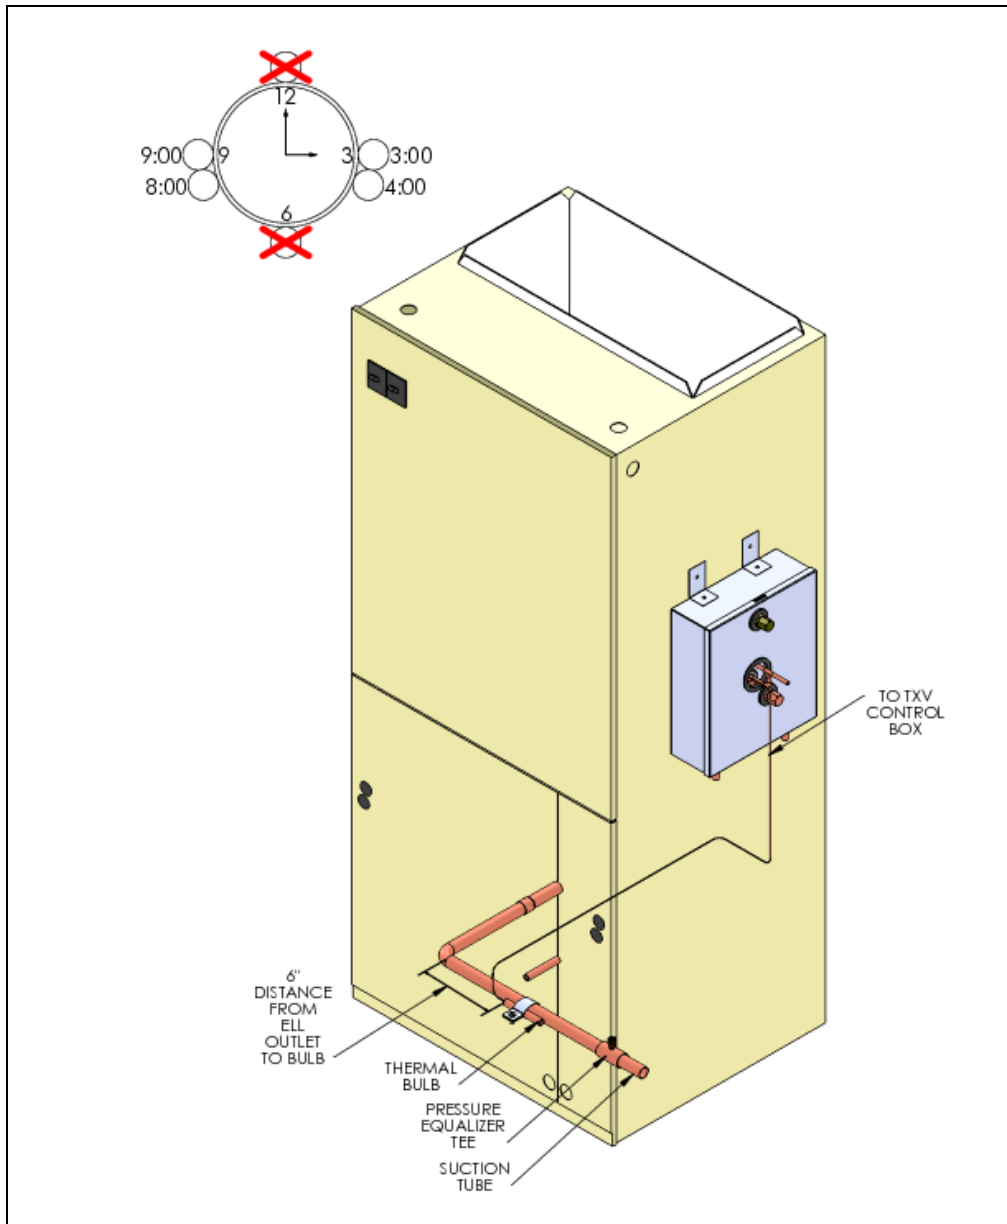

Figure 6. Thermal Bulb Positioning
Step 3: The **Thermal Bulb** must be positioned and clamped to the suction tube 6 inches downstream from the 90° elbow as shown in the example illustrated in Figure 6. The **Thermal Bulb and suction tube must be horizontal** regardless of the air handler application (vertical or horizontal).
The Thermal Bulb must be positioned at the 3:00, 4:00, 8:00 or 9:00 positions on the suction tube as illustrated in Figure 6.